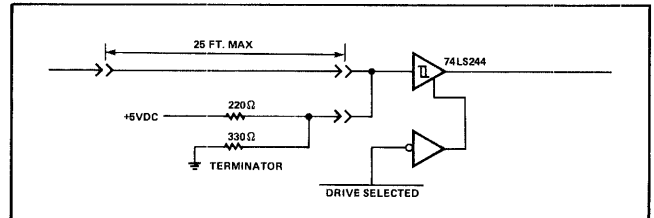

Figure 3-28. Single End Line Receiver Gated By DRIVE SELECT
3.19.2 + AD 0-1. This high-active 2-bit wide address bus is used to select one of three registers into which data can be stored, or one of three registers from which data can be read. These lines connect directly to a 74LS244 Schmitt-triggered receiver gated by DRIVE SELECTED, as shown in Figure 3-28. The DC characteristics are listed in Table 3-3. These lines should be terminated at the drive end.
TED, as shown in Figure 3-28. The DC characteristics are listed in Table 3-3. This line should be terminated at the drive end.
3.19.4 – WR. This low-active signal is used to gate the DBUS into the selected register (decode of AD1, AD0). This line is connected to a 74LS244, gated by DRIVE SELECTED, as shown in Figure 3-28. The DC characteristics are listed in Table 3-3. This line should be terminated at the drive end.
3.19.5 – RESET. This low-active signal resets the drive logic. If the drive is sequenced down when RESET occurs, it will remain sequenced down. If the drive is sequenced up, it will remain up and the head carriage will Restore to cylinder zero. This line is connected to 74LS244, gated by DRIVE SELECTED, as shown in Figure 3-28. The DC characteristics are listed in Table 3-3. This line should be terminated at the drive end.
3.19.7 – HEAD SELECT 1, 2, and 4. These low-active signals are used to select the desired data head for reading or writing. Head selection decoding is shown in Table 3-2. This line is connected to a 74LS244, gated by DRIVE SELECTED, as shown in Figure 3-28. The DC characteristics are listed in Table 3-3. This line should be terminated at the drive end.
3.19.11 – WRITE GATE. This low-active signal enables the writing of data by a selected head. This line is connected to a 74LS244, as shown in Figure 3-28. The DC characteristics are listed in Table 3-3. If long cables are used, this line should be terminated at the drive end.
3.19.12 – READ GATE. This low-active signal initiates synchronization of the drive's phase lock loop for data separation. READ GATE must be enabled during a gap. This line is connected to a 74LS244, as shown in Figure 3-28. The DC characteristics are listed in Table 3-3. If long cables are used, this line should be terminated at the drive end.